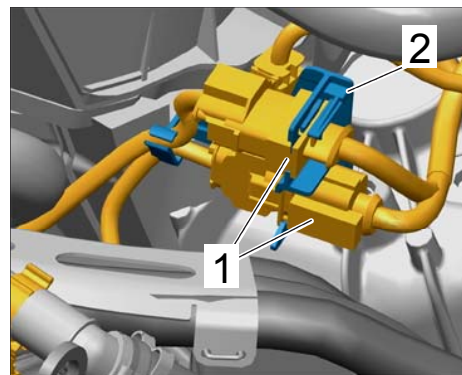

Figure 9
- 5.4 Release plug connections for oxygen sensors ⇒ *Figure 9 -item 1-* with holder ⇒ *Figure 9 -item 2-* at the spring strut mount and set them aside.